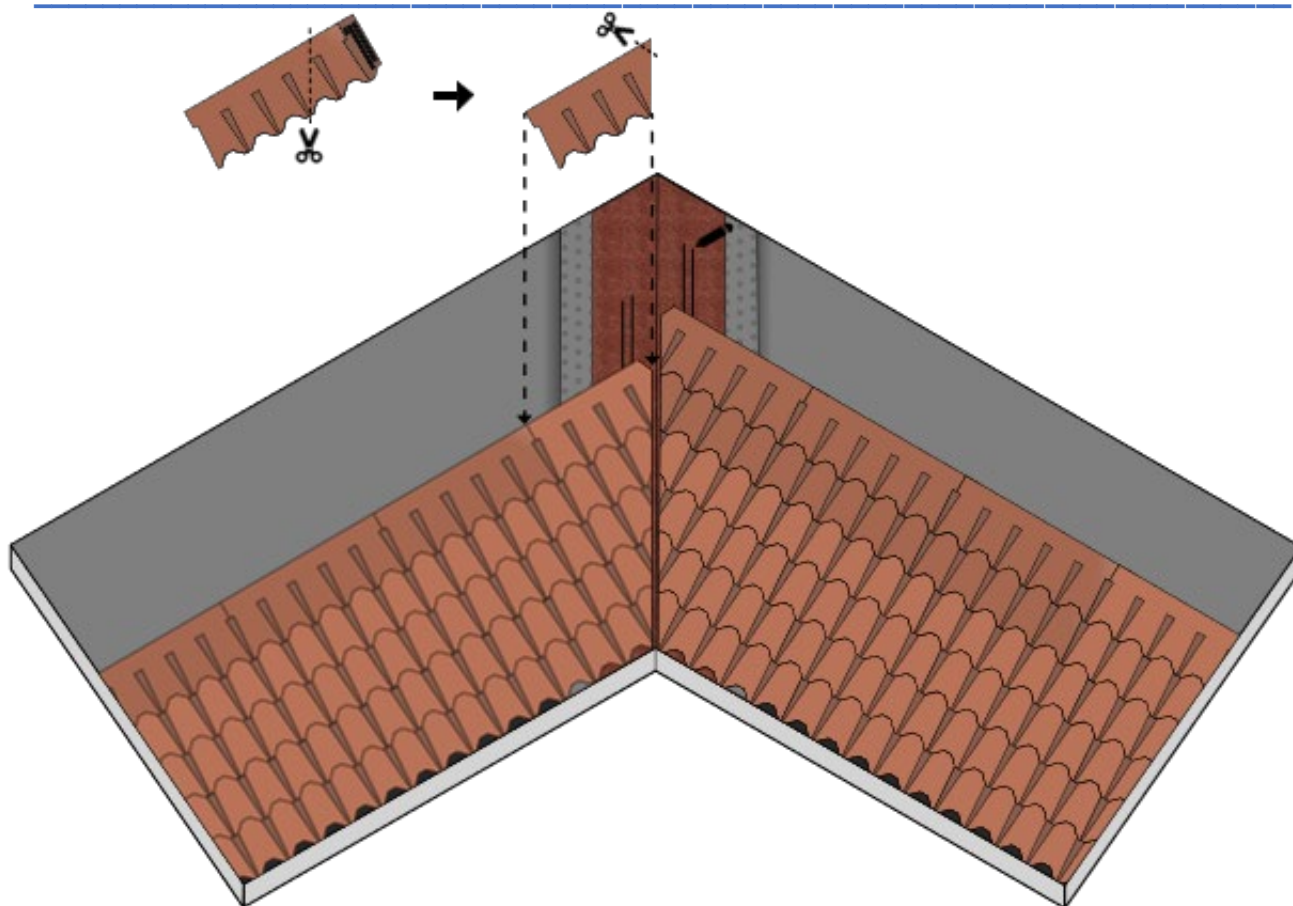

Fig. 27 - Shingles installation by torch at the valley - option 1
- Regarding the valleys, the first option is to create them with a double layer of bituminous membrane. In this case, lay a strip of bituminous membrane (such as Safety EPP) with a thickness of at least 3mm and a width of 100 cm over the valley to ensure its waterproofing. Above this, always place a bituminous membrane with a granulated surface (such as Safety EAP), with a thickness of at least 4mm and approximately 60 cm in width, centred along the valley. Then, lay the Start Line SA and the shingles of the first pitch, up to the valley line, cutting them 3 cm and parallel to the valley line. Fix the shingles using the torch flame over the Safety EPP, always heating the membrane and not the shingle element, and use two strips of Bitustick over the Safety EAP – Fig. 27. It is also advisable to cut the upper edge of the shingle across the valley line, to direct the descending water along the valley axis. Repeat the same procedure for the second pitch. In the end, a channel should form between the shingles along the valley line, where water will preferentially flow – Fig. 27